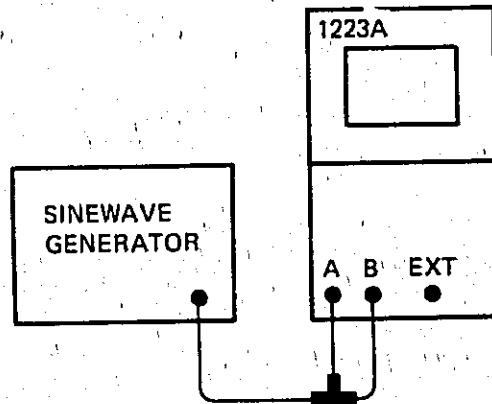

Figure 4-3. A+B Mode and B Inv Common Mode Rejection Test Setup.
1. Connect Sinewave Generator to the 1223A as shown in Figure 4-3 and set the 1223A controls as follows: